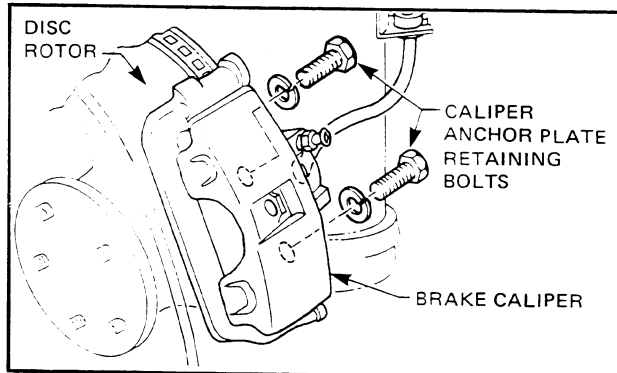

Figure 5-2
9. Remove left hand caliper anchor plate retaining bolts. (See Fig. 5-2).